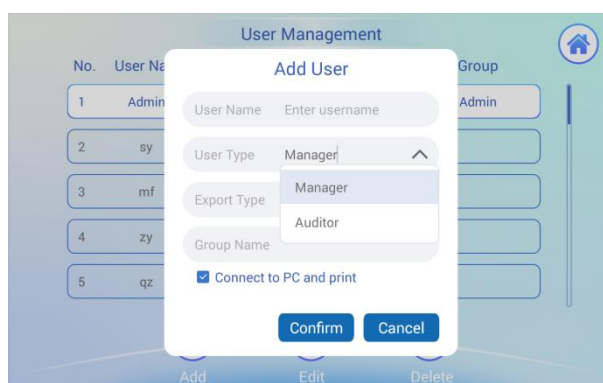

Fig. 4.5
- 2) In the "**User Management**" panel (see Fig. 4.5), configure the following fields to complete the account setup: